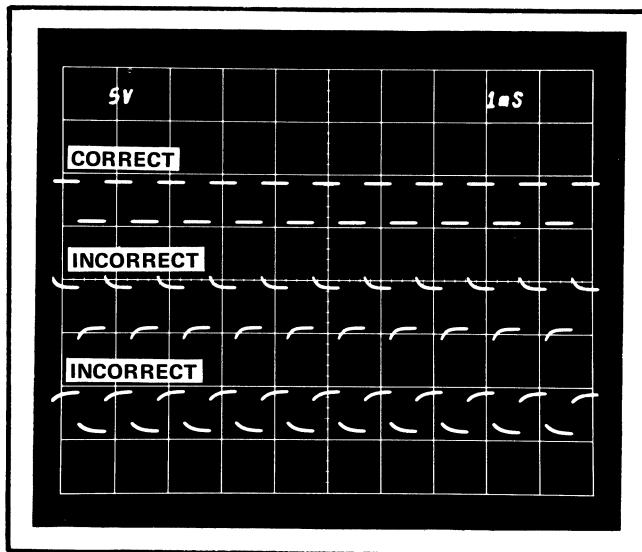
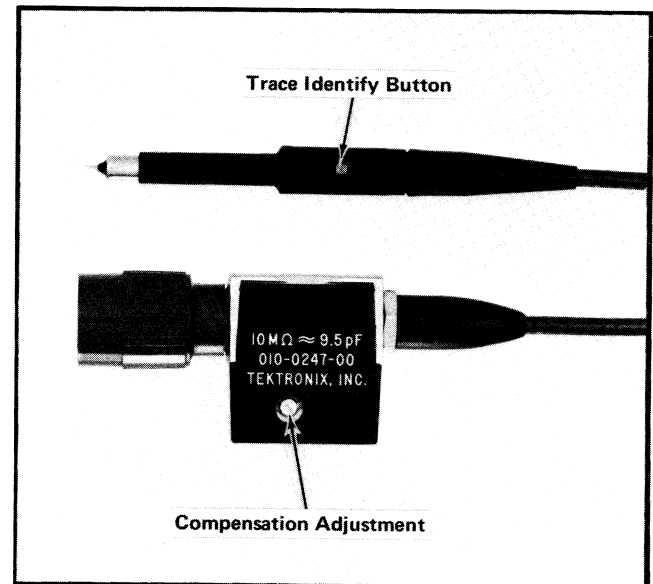

Fig. 2-2. Probe compensation.
Fig. 2-3. Probe trace identify button and compensation adjustment locations.
Compensation is simply a matter of adjusting the value of a capacitor so that the attenuation ratio remains the same for all frequencies within the range of the probe-amplifier combination. This is accomplished by touching the probe tip to a square wave source (typically 1 kHz) and adjusting the resultant waveform display to have a flat top and square corners. Fig. 2-2 shows this adjustment. A very high frequency adjustment which must be set using a specific procedure is described in the Calibration Procedure in Section 4. This adjustment is not dependent on variations in input capacitance of the vertical plug-in unit.
5. Adjust C8 (Fig. 2-3), through the access hole in the compensation box cover, for optimum pulse flat top. Fig. 2-2 illustrates correct and incorrect square wave response.